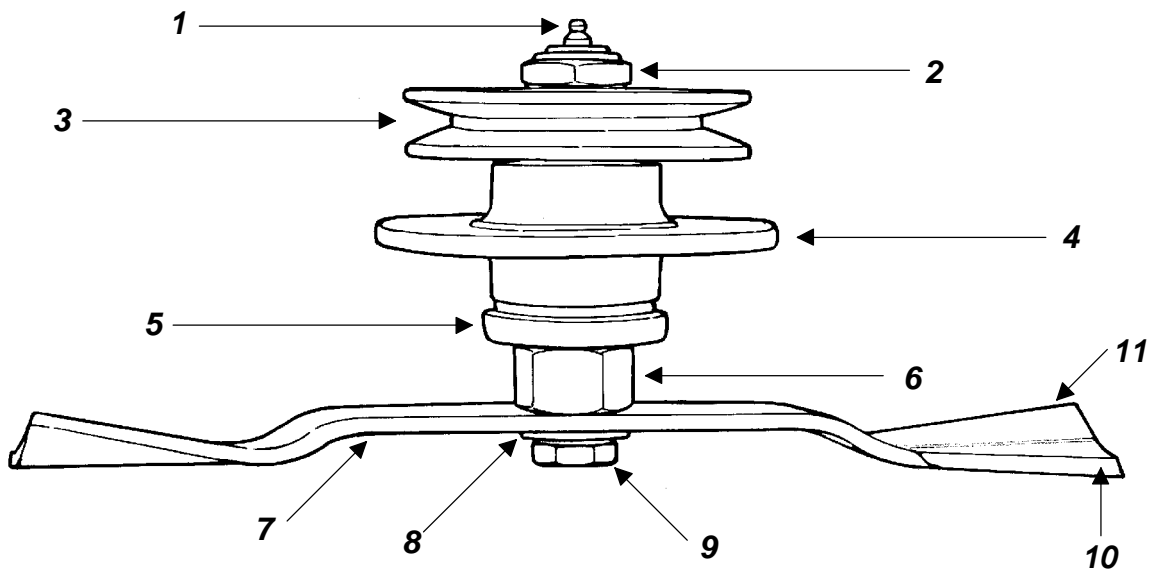

Fig. 17
1. the blade turns in a **counter clockwise** direction when viewed from the bottom of the deck. The cutting edge must be towards the direction of rotation. The lift wing of the blades is closest to the deck and the cutting edge away from it (**see fig. 17**).
2. Install the cup washer (**see fig. 17**) over the blade bolt and secure the blade in place as described above.